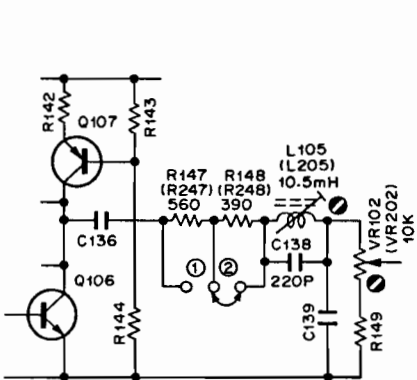

Fig. 7.5
Main P.C.B. R147, R247 R148, R248	<ol style="list-style-type: none"> <li>Load the 400 Hz level tape and play it back. Adjust the output level control to a certain level (example 0 dB).</li> <li>Load the 10 kHz, 15 kHz and 20 kHz PB frequency response tapes and adjust the playback head azimuth to give maximum levels on the VTVM with each tape. Short R147 (R247) and/or R148 (R248) to obtain the following level against 400 Hz level tape. Refer to Fig. 7.5. 10 kHz: - 20 dB -1 dB to +2 dB 15 kHz: - 20 dB -1 dB to +3 dB 20 kHz: - 20 dB -1 dB to +4 dB</li> <li>Conduct step 6 "Playback Head Azimuth Alignment".</li> <li>If above is not sufficient, refer to "Playback Frequency Response Adjustment" in item 7.2.1.</li> </ol>